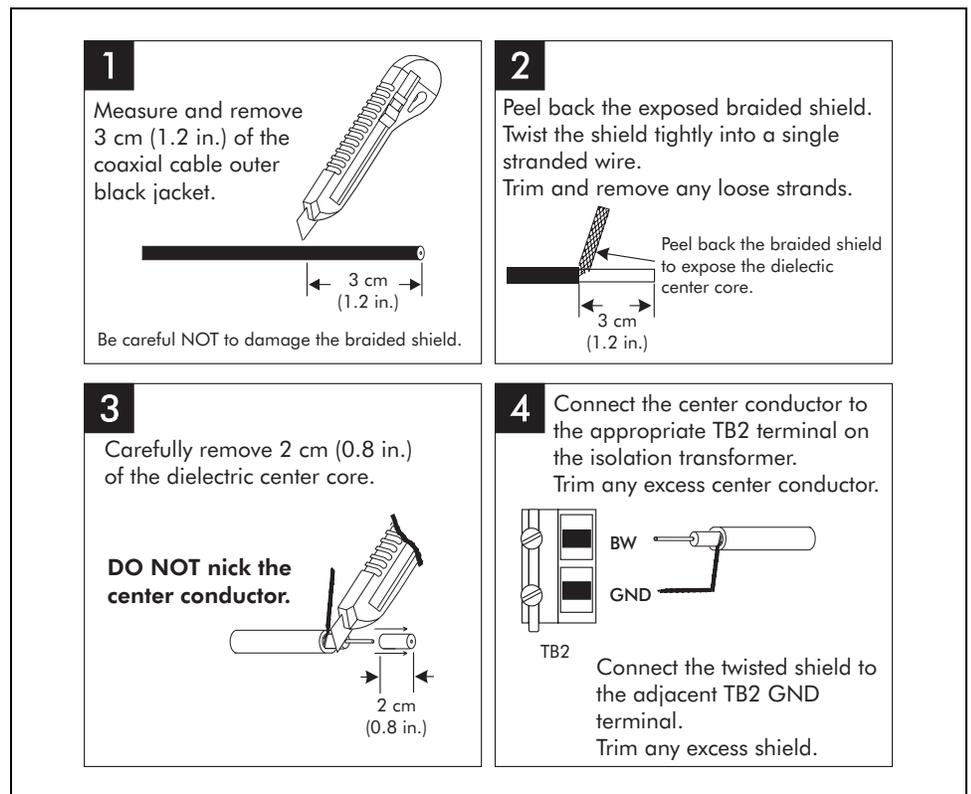

Figure 8-2 Isolation transformer coaxial cable preparation
6. Follow the directions in Figure 8-2 to prepare the coaxial cables for installation in the isolation transformer enclosure.
3. Refer to Figure 8-2 to prepare the isolation transformer end of the coaxial cables:
7. Follow the directions in Figure 8-2 to prepare the isolation transformer end of each cable.